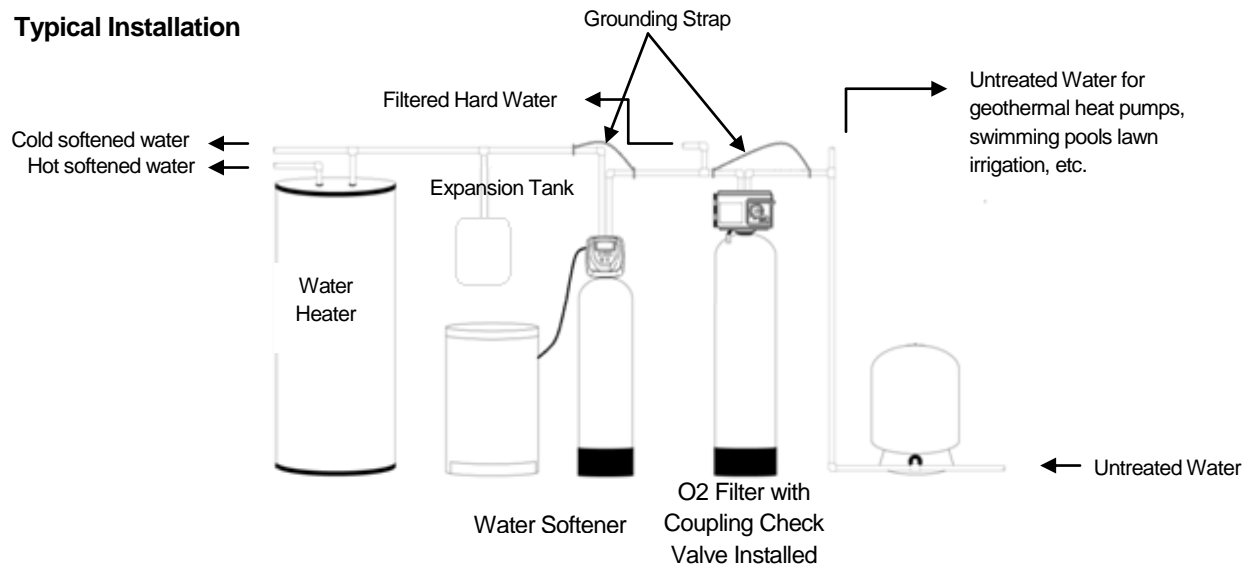

FIGURE 1: Typical Installation
7. Appliances requiring extended periods of continuous or high flow water use (i.e. geothermal heat pumps, swimming pools, lawn irrigation, outside hose bibs, etc.) should bypass the filter and a spring check valve should be installed on the filter inlet to prevent backflow of air from the filter tank (see installation diagram Fig. 1).
- If there are any branches in the plumbing between the pressure tank and the OXY you must install the CKV-1 coupling check valve and an expansion tank (Figure 1, Page 4). See CKV-1 installation instructions on page 19.**